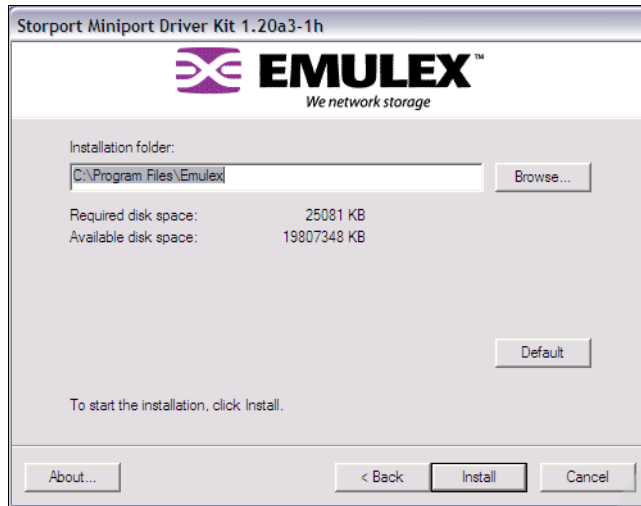

Figure 24-23 Extract Emulex Drivers - Install
3. Type or browse the directory and click **Install** (Figure 24-23 on page 598) to extract the files.